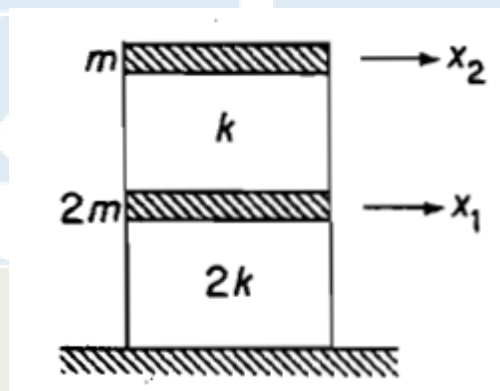

Fig.5.
17. a. What is a shear building? List the assumptions made in the lumped mass idealization of shear buildings? (4)
- b. For the two storey shear building with floor mass and storey shears as shown in Fig.5. set up the equation of motion and hence determine its natural frequencies and vibration modes (10)